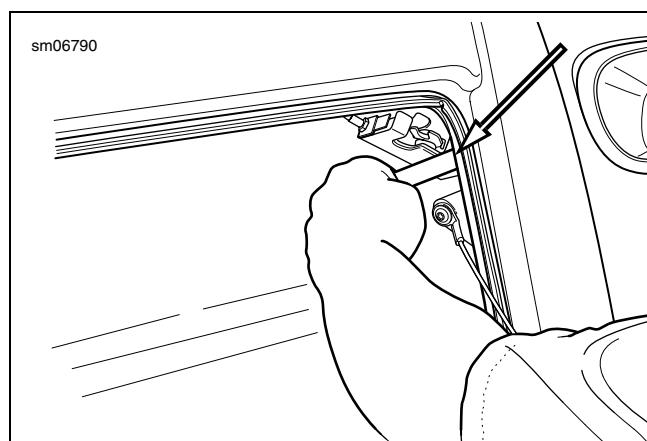

Figure 4. Measure Latch Clearance
6. Repeat the check near each upper corner. If the paper moves freely at any check point, adjustment is necessary. Equally reduce dimension (2) slightly on both latch pins and retest.
7. See Figure 4. If the latch pins are at the extreme adjustment and the seal contact is still too loose, use a feeler gauge to check the distance between the inside of the body and each latch mechanism. Carefully bend both latch mechanisms, if necessary, to obtain a maximum measurement of 0.250 in. (6.35 mm). Repeat the adjustment procedure from the beginning.